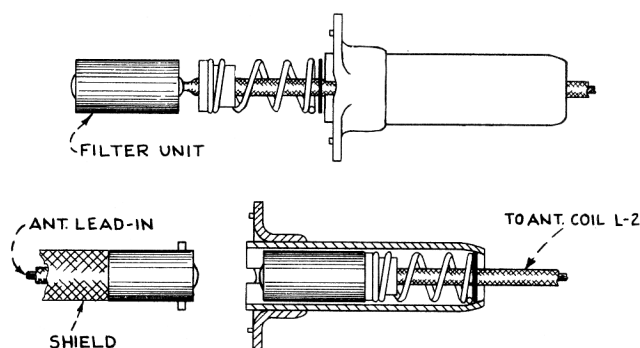

Figure 4—Antenna Filter
**Antenna Filter.**—A filter is included in the antenna circuit. Being completely shielded, it prevents radiating ignition interference within the set. It also reduces the possibility of picking up vibrator interference. As shown in Figure 4, the filter unit is mounted inside a steel shell which in turn is welded to the chassis. The shielded antenna lead-in makes contact with the filter unit within the steel shell and is held in place by a bayonet type connector.